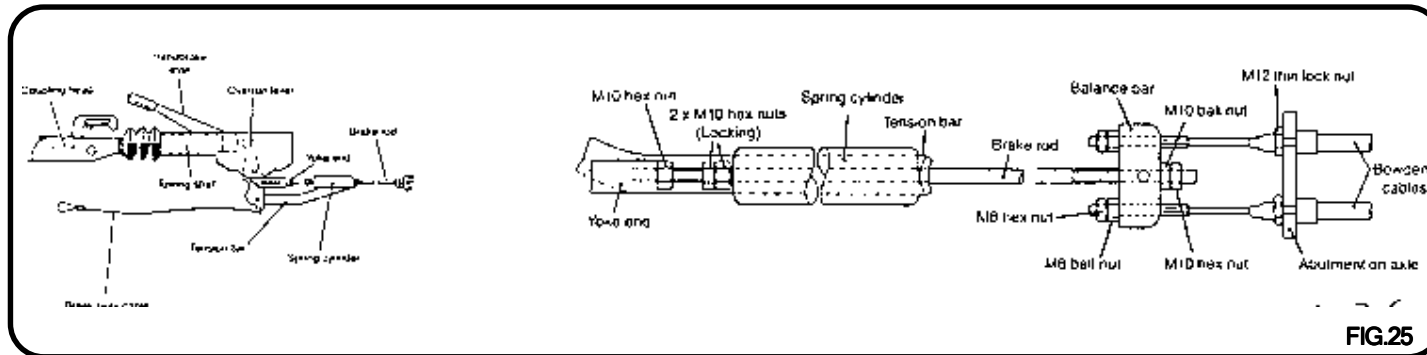

FIG.25
**Brake Linkage Adjustment (Fig. 25)**